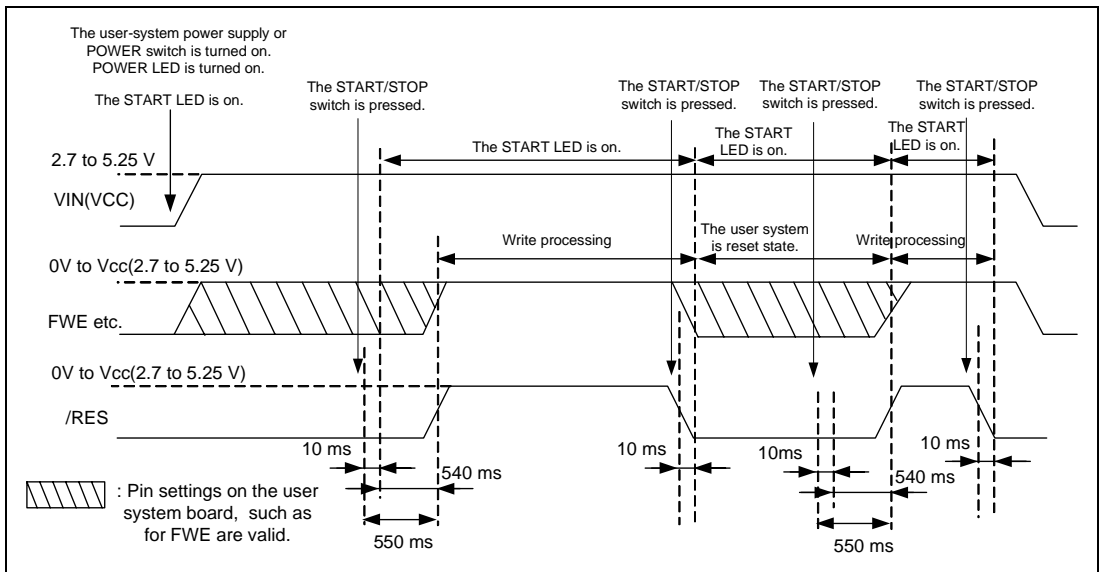

Figure 5.2 Reset Signal, 2.7- to 5.25-V Application, and Stop Timing (Control sequence 2)
5. When the transition to programming processing etc. is made, the application of 2.7 to 5.25 V to the FWE/FWP pin starts or stops (figure 5.2) 10 ms after the transfer switch is pressed.